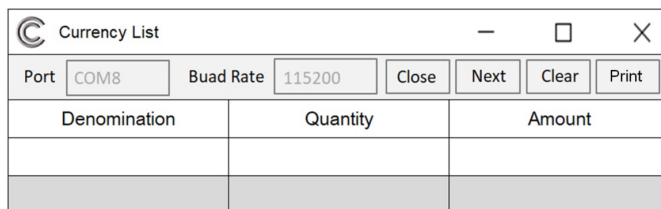

Figure 82
3) Then press the Open key, the serial port and baud rate fonts dim, OPEN becomes CLOSE, and then you can count the banknotes and view the counting information, as shown in Figures 82 and 83 below.